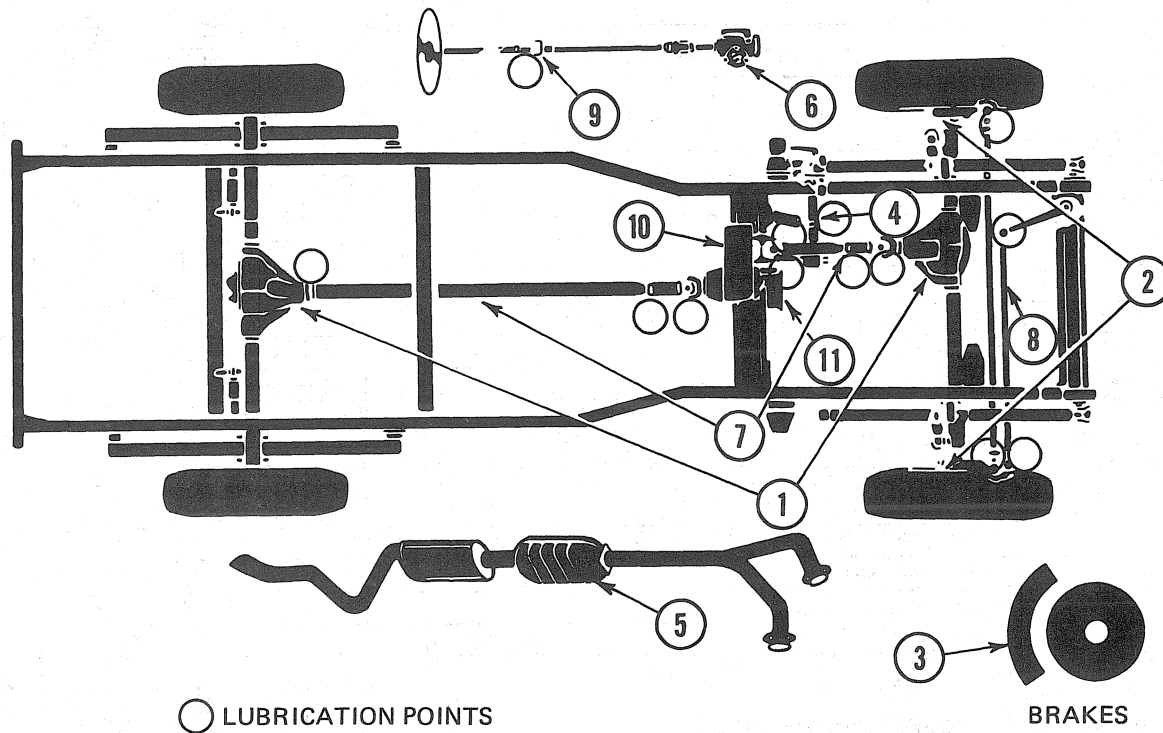

Fig. B-4 Chassis Illustration
- (1) Disconnect battery negative cable and then positive cable.
- (2) Clean cables and terminal posts with a wire-brush terminal cleaner.
- (3) Check battery fluid level and replenish if necessary (fig. B-4).
- (4) Remove battery holddown and clean battery case and battery tray, if necessary, with a solution of baking soda and water; then rinse thoroughly.
- (5) Position battery in tray and fasten holddown. Do not overtighten.
- (6) Attach positive cable and then the negative cable.
- (7) Apply a small amount of grease or protective coating to cable ends to minimize corrosion.